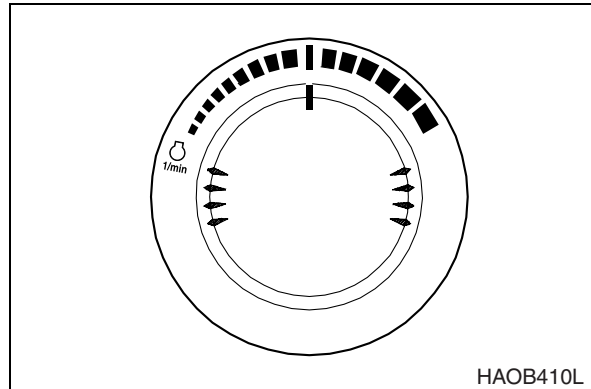

Figure 18
2. Run engine for approximately 5 minutes set at the middle of the speed range, without a load (Figure 18).